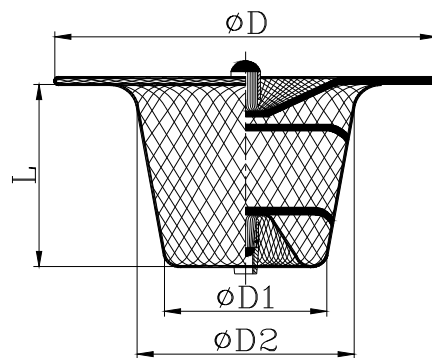

Figure 2 Structure of the HeartR™ PDA Occluder
- The HeartR™ PDA Occluder and the SteerEase™ Introducer are packaged separately. The occluder and the introducer are available with specifications in the following table (Figure 2 & Table 1).